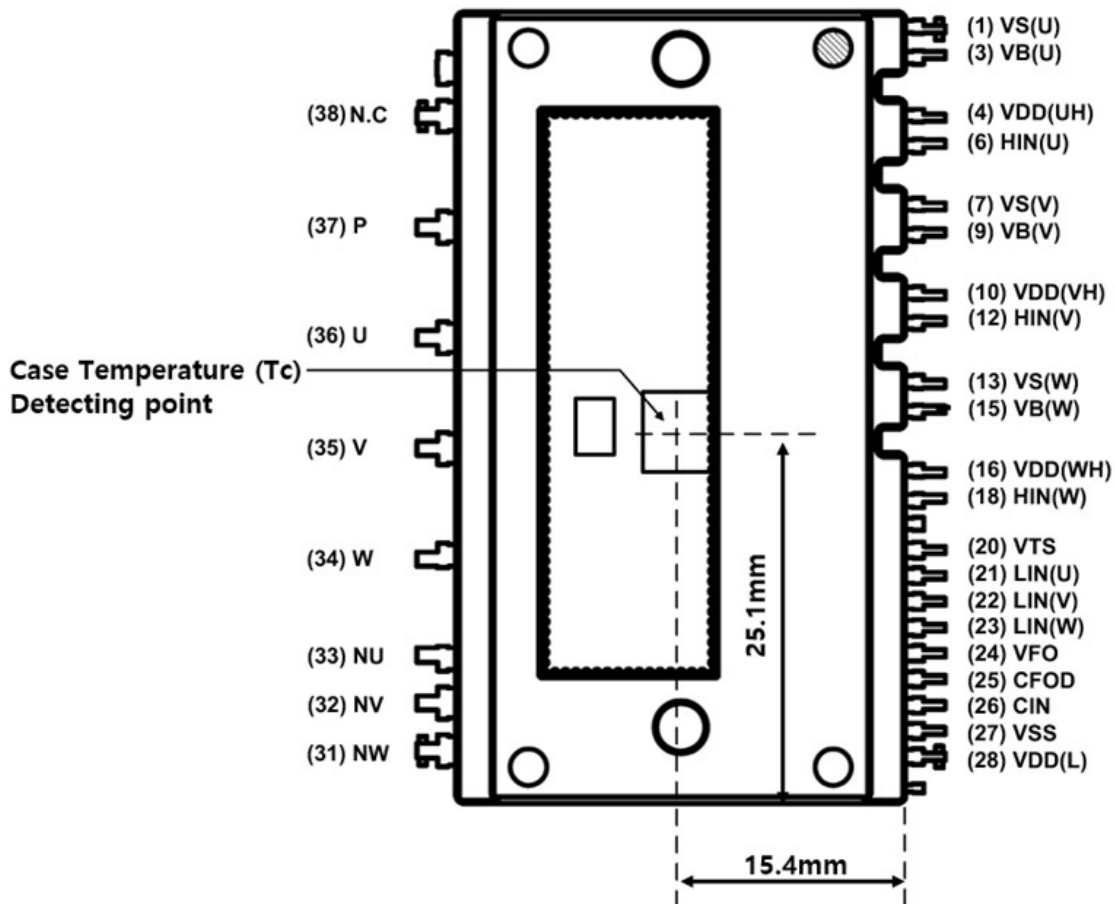

Figure 1. Pin Configuration - Top View
- For the measurement point of case temperature (Tc), please refer to *Figure 1*.